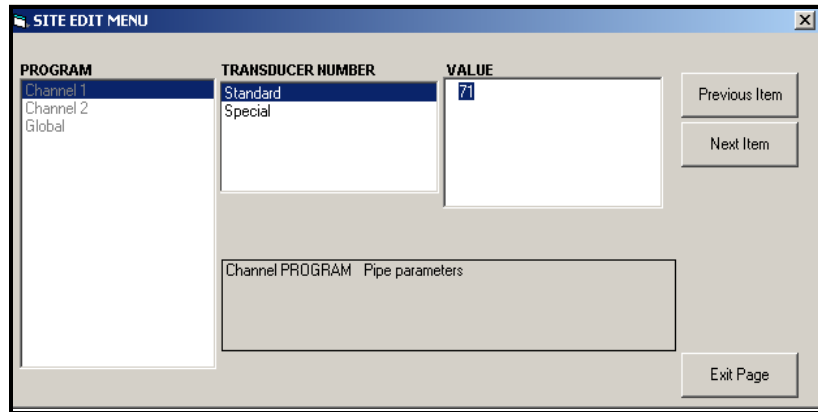

Figure C-11: The Pipe Parameters Option in the Site Edit Menu
- Highlight and double-click on the desired option in the center pane. Figure C-11 on the next page shows the first entry (Transducer Number) in the *Pipe Parameters* option. The title above the center pane lists the current entry, while the center pane displays the available selections for that entry.